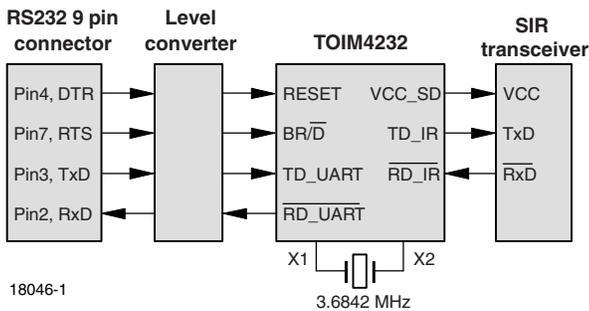

Figure 1. TOIM4232-RS232 Interface (external infrared adapter)
For interfacing the SIR frontend transceivers (4000 series) as for other SIR transceivers an Encoder/Decoder device (TOIM4232) is necessary to provide the NRZ to RZ1 conversion. This device also provides the clock generator and can be programmed by a set of (8 bit-) commands. Drivers for the RS232 connector with TOIM4232 are provided by Microsoft (R) with the Operating Systems. The block diagram of a dongle connection to RS232 is shown in figure 1.